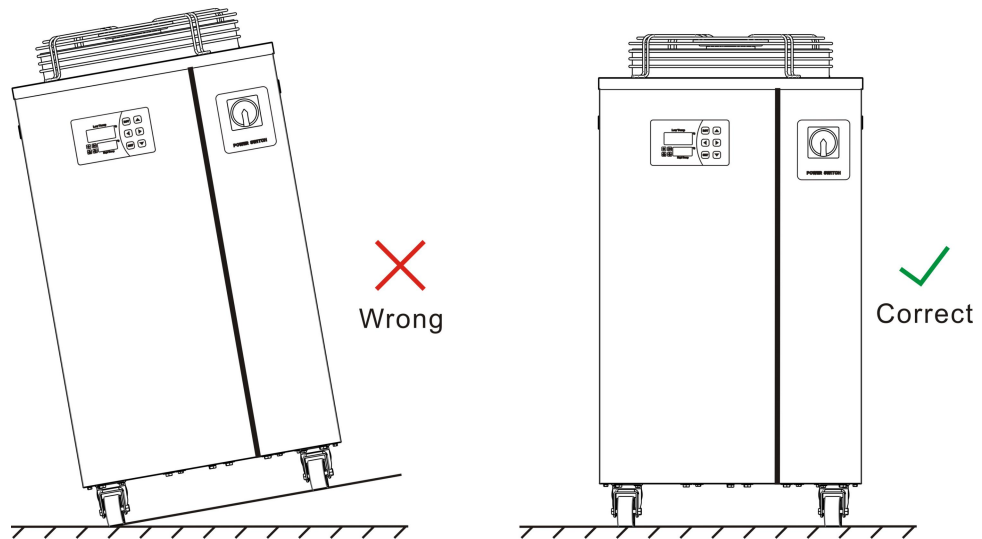

Figure 1: Form Requirements for Chiller Installation
(1) It must be installed on a horizontal surface and not tilted, as shown in Figure 1.